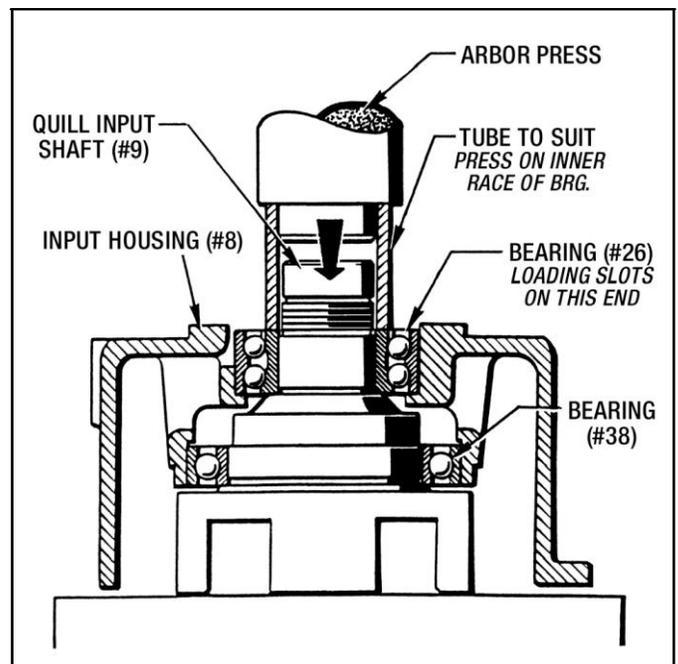

Figure 9.2 - Installing Quill Input Shaft
3. Set the Input Housing into an arbor press as shown in Figure 9.2. Place the Bearing (#26) onto the Input Shaft and with an appropriate sized tube, press on the inner race of the bearing until it bottoms out. **(Do not press on the bearing cage of the outer race.)**